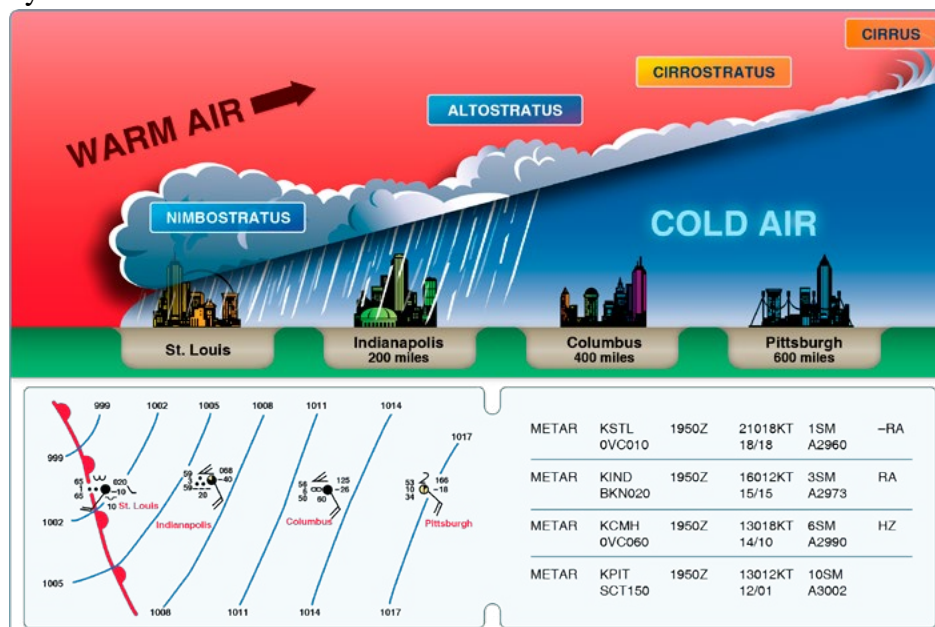

Figure 10-7. – Warm front: cross-section, as shown on weather map, as it appears on a METAR.
- Warm Front weather (See Figure 10-7)